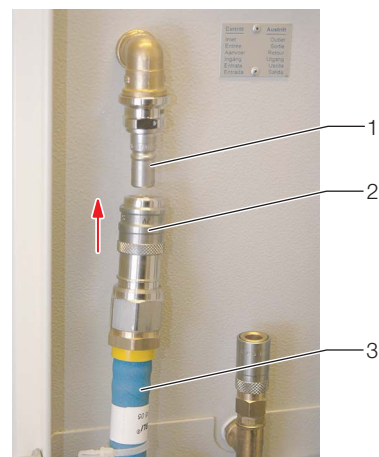

Fig. 37: Quick release fastener on the cooling water connection
- Connect the cooling water hoses for the inlet and return with the corresponding cooling water connections. To do this, press the fastener pocket (Fig. 37, Pos. 2) firmly from below onto the plug-in nipple (Fig. 37, Pos. 1) on the cooling water connection until the fastener snaps in place.